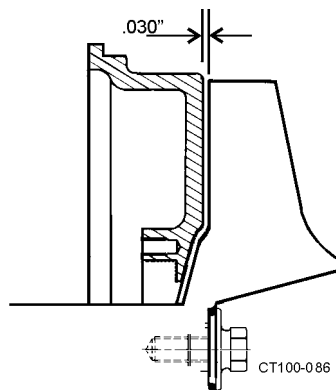
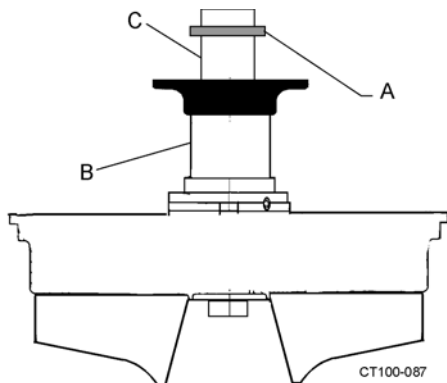

Figure 11 - Clearance Between Impeller and Backplate
Figure 12 - Locations of Shims
- Check the space between the back of the impeller and the backplate with a feeler gauge (.030 nominal) while holding the backplate tight against the bearing housing flange. (Any axial movement of the shaft should not be added to the .030 nominal clearance). (Figure 11). If needed, change this clearance by adding or removing shims. Shims (Figure 12, item A) are added on the drive shaft.
(Figure 12, item C) behind the impeller shaft (Figure 12, item B).